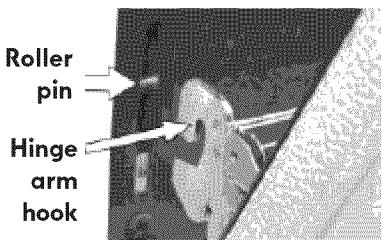

Figure 4D
- 5 With the oven door in the broil stop position, lift the oven door hinge arms over the roller pins located on each side of the oven frame (See Figure 4D).